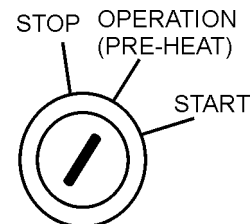
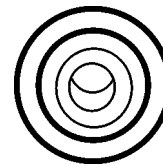

Figure 42. Ignition Switch (Operation Pre-Heat Position)
Figure 43. Pre-Heat Indicator Lamp
6. Preheat the engine **glow plugs** by turning the ignition key (Figure 42) to the **"OPERATION"** position.
7. When the preheat lamp illuminates (Figure 43), turn the ignition key to the **"START"** position. Once the engine starts, release the ignition key and allow it to return to the **"OPERATION"** position (Figure 42).